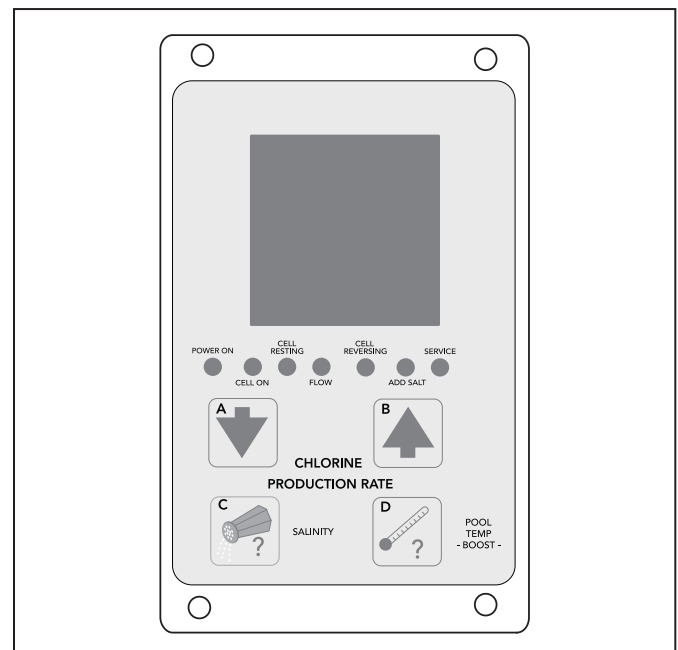

Figure 1. AquaPure User Interface
1. On the AquaPure user interface, press "C" Salinity, "A" Down and "B" Up buttons at the same time. The first four sets of two digits shown on the AquaPure interface is the firmware revision. See Figure 1.